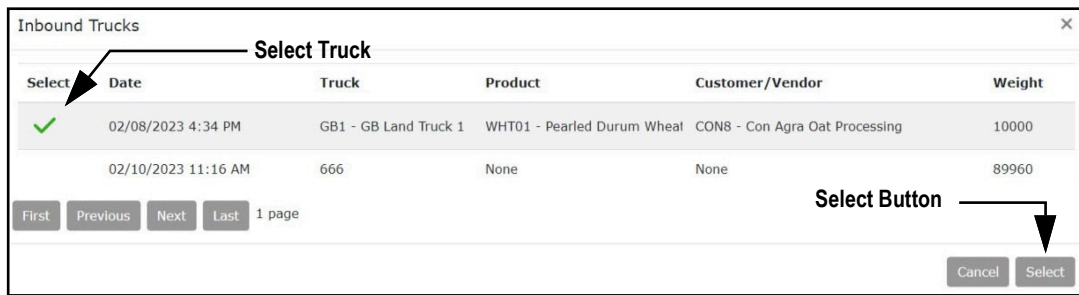

Figure 9-10. Inbound Trucks Window
- The Inbound Trucks window displays (see Figure 9-10 on page 129).